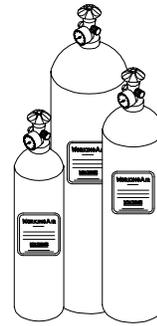

Figure 1-23 Working Air Cylinders
j. **Working Air Cylinders.** Three sizes of working air cylinders (figure 1-23) are available to pressurize the RSS; 13 cubic feet (0.4 cubic meters), 50 cubic feet